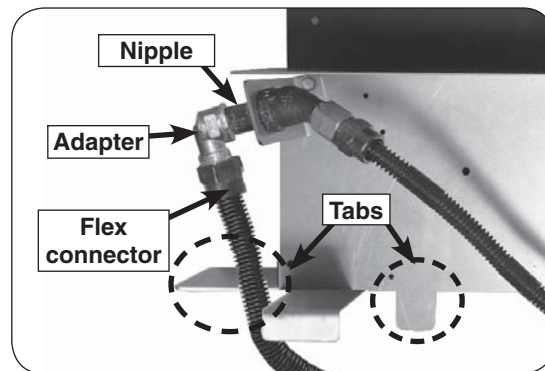

Fig. 8-1 Connect flex to burner
3. Remove the small adapter connected to the flex connector (included). Attach the adapter to the nipple found on the bottom of the burner pan using a pipe compound resistant to all gasses. Tighten securely. Then attach the flex connector to the adapter. Tighten securely (See Fig. 8-1).
Note: The tabs located on the burner are for spacing and air circulation. See Fig. 8-1.